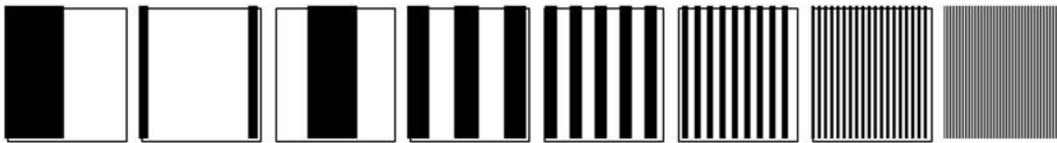

Figure 6. Gray Code Sequences
- **Gray Code:** Similar to binary code, but adjacent stripes only differ by 1-bit. It follows the sequence as shown in Figure 6.